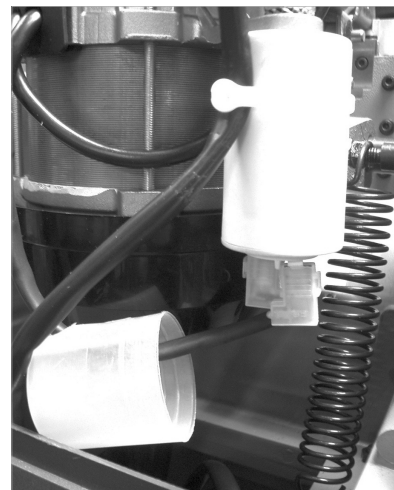

Fig. 51
- 3) Move the protective cap on the condenser (Fig. 51).